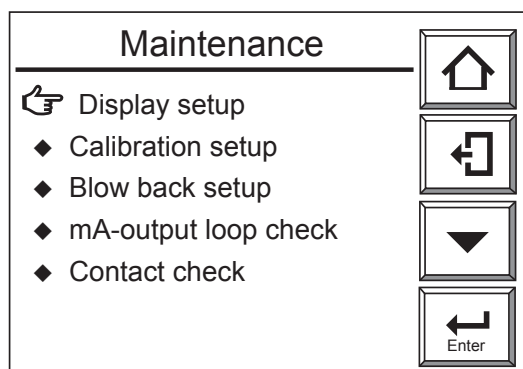
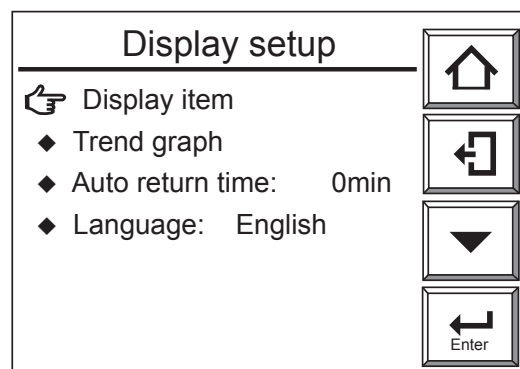

Figure 7.14 Maintenance Panel Display
Figure 7.15 Display Setup
- (1) Press the [Setup] key in the Basic panel display to display the Execution/Setup display. Then select "Maintenance" in the Execution/Setup display.
- (2) Select the "Display setup" from the Maintenance panel display (Figure 7.14). The Display setup display (Figure 7.15) then appears.